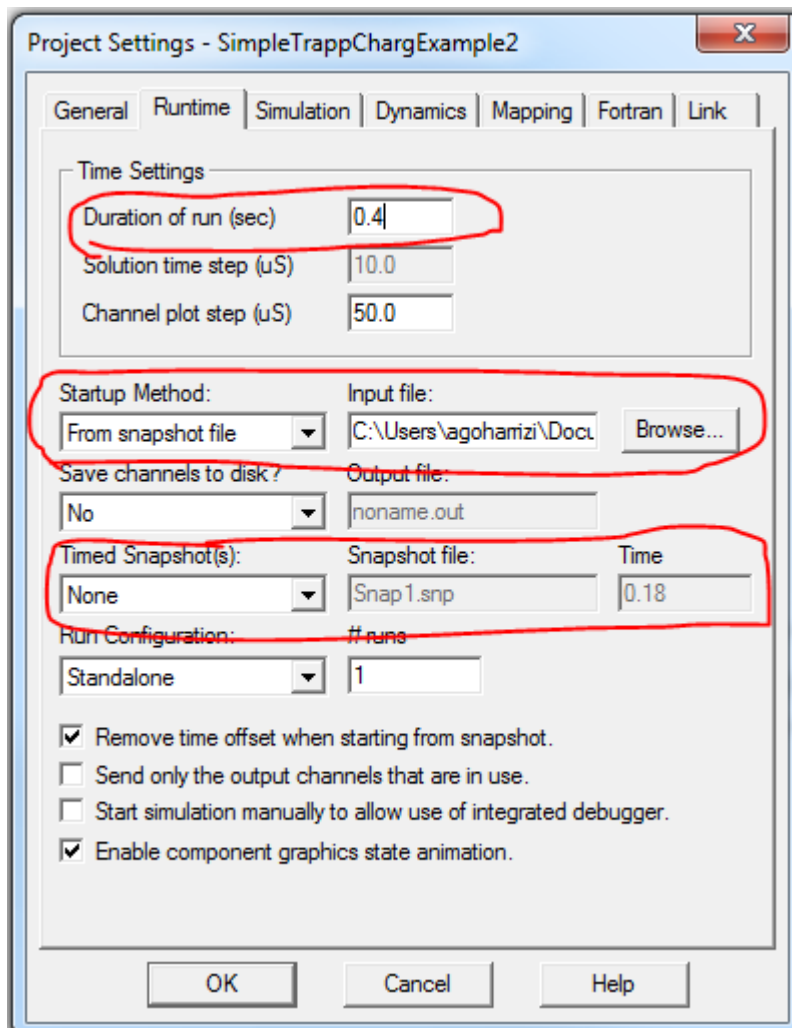

Figure 9: Setting the simulation start-up from the snapshot
- Set the case startup from the snapshot, and change the simulation time to 0.4 sec (in the Project Settings of the case) (Figure 9).